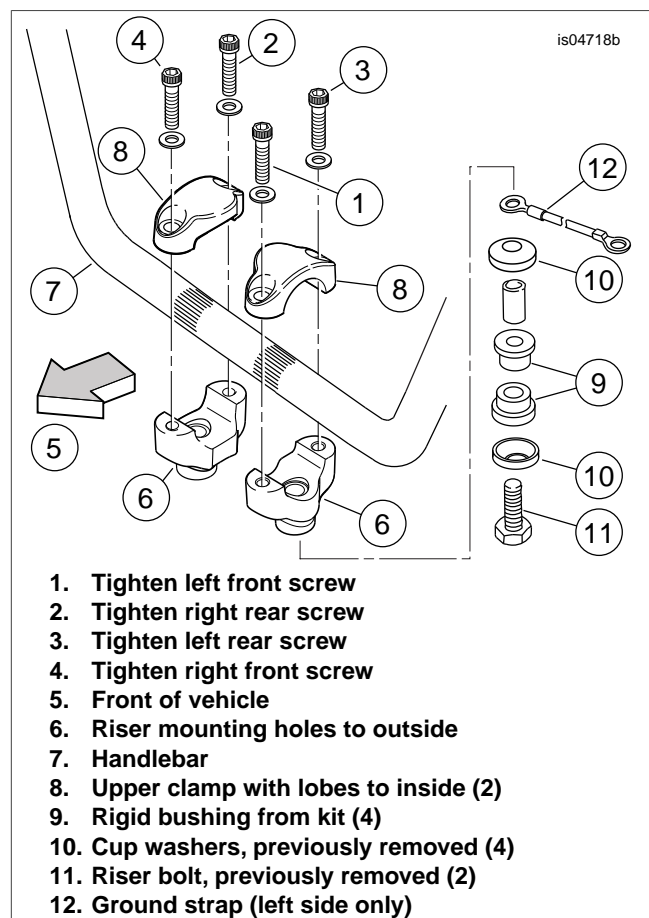

Figure 3. Handlebar and Clamp Assembly to Risers
1. See Figure 3. Position each riser (6) with the mounting hole to the outside as shown.
12. See Figure 3. Tighten the upper handlebar clamp screws as follows:
- a. Tighten the left front screw (1) to 12-16 ft-lbs (16.3-21.7 Nm).
- b. Tighten the right rear screw (2) to 12-16 ft-lbs (16.3-21.7 Nm).
- c. Tighten the left rear screw (3) to 12-16 ft-lbs (16.3-21.7 Nm).
- d. Tighten the right front screw (4) to 12-16 ft-lbs (16.3-21.7 Nm).